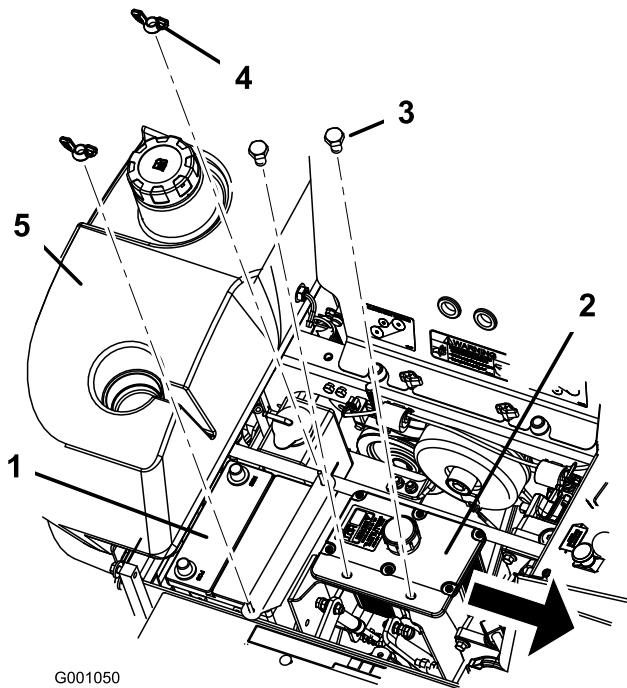

Figure 53
- Remove both wing nuts (1/4 inch) securing the battery clamp (Figure 53).
- Remove the two bolts holding the hydraulic tank in place (Figure 53).
6. Secure battery with J-bolts, hold down clamp and 2 washers (1/4 inch), and 2 wing nuts (1/4 inch) (Figure 53).